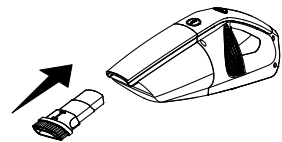

Fig.15
- To clean difficult to reach areas, use the Combination Tool by inserting end of tool into the handheld vacuum cleaner as shown (Fig.15).